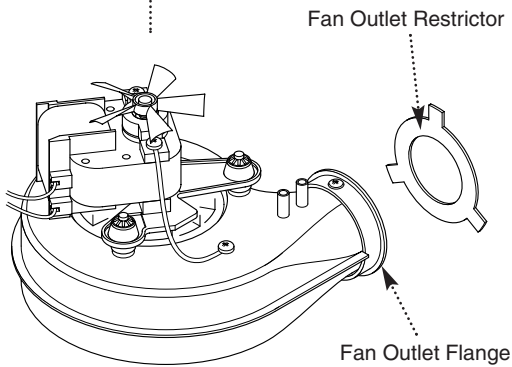

Fig. 20
4. Fit the restrictor to the fan outlet flange, bending the 3 lugs equally ensuring the restrictor seals against the fan outlet flange (Fig. 20).